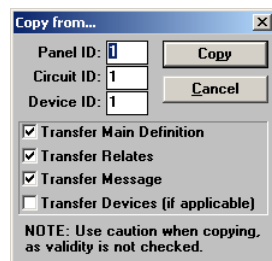

Figure 21 Copy Window
- **Copy:** Copies the circuit/device information, relates and message from another input to the current input (see Figure 21). The current input does not have to be defined. Relates cannot be copied between conventional and addressable input points. The *Panel ID*, *Circuit ID* and *Device ID* (not always shown) list the circuit/device to be copied from. Marking *Transfer Main Definition* copies the listed circuit/device type and function to the current circuit/device. **Note:** Not all inputs can be copied to all other possible inputs. Marking *Transfer Relates* copies the relates from the listed circuit/device relates to the current one. This may cause some invalid relates. Marking *Transfer Message* causes the message to be copied. Marking *Transfer Devices* (if shown) copies any device definitions that the listed circuit contains. These devices copy messages and relates as based on those settings above. There is no checking made at this time as to the validity of the values copied. **Unexpected results can occur if care is not taken.** For each database that is created, a warning about using copy is shown. Marking the check box in the warning stops the box from appearing again for the database. This option can help speed up the creation of a database. By completely defining one input, these values can be copied to all other inputs, making any minor changes that are required after the copy.
- **Copy Relates:** Copies the relates from another input to the current internal circuit (see Figure 21). The values of the panel and circuit are required. Press Copy to copy the information. If the function type of the two circuits is different, a requester is presented to confirm the copy.